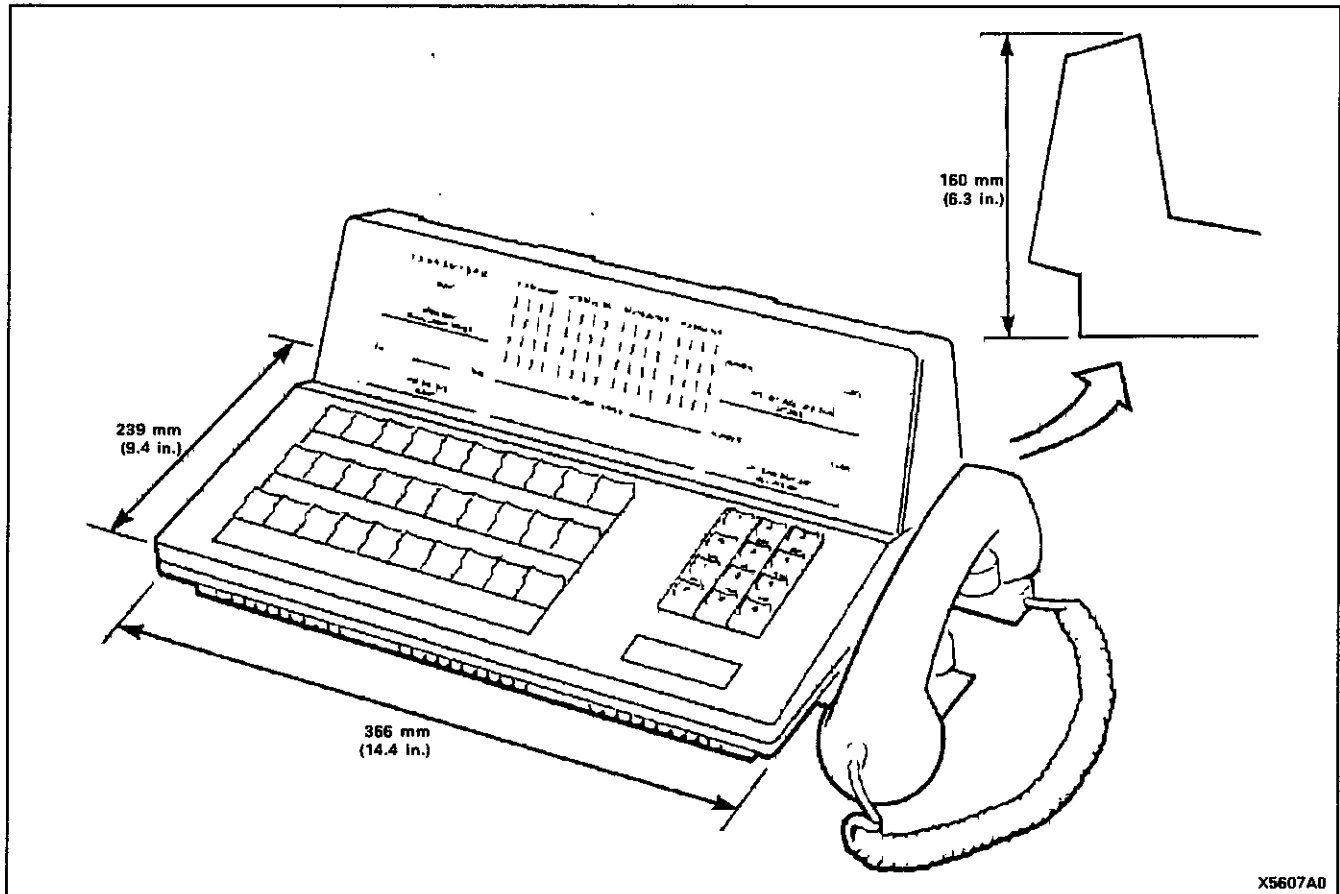
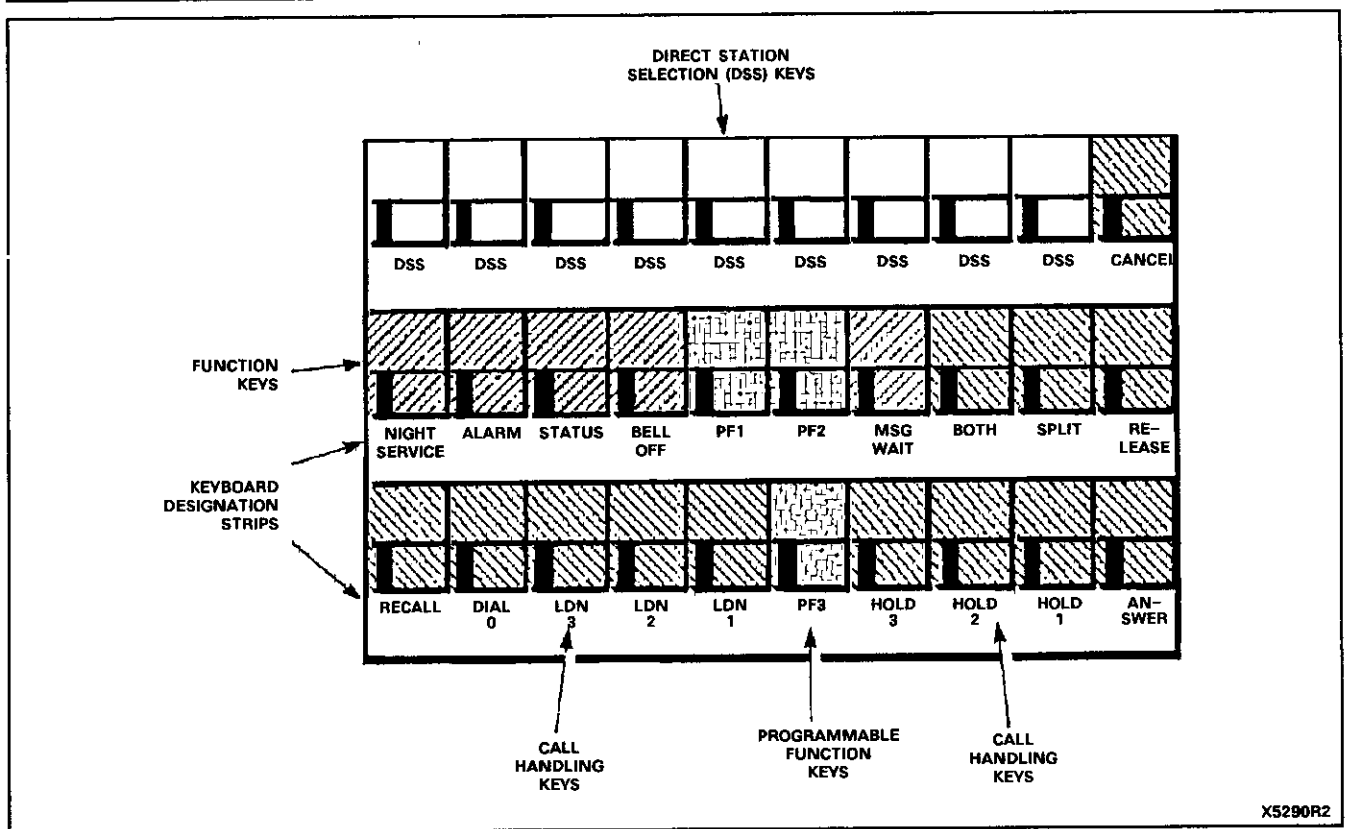

Figure 3-2 SX-20 Attendant Console
Figure 3-3 Keyboard Layout
3.07 The SX-20 system may be operated as a console or consoleless system. The Generic 503 feature package is used in conjunction with the MITEL SX-20 Attendant Console (as shown in Figure 3-2). The Attendant Console contains a full Call Status Display and sophisticated call handling features, including a 9-key Direct Station Selection and Superfunction keys (refer to Figure 3-3). Refer to Section MITL9102-095-315-NA, Attendant Console Description.